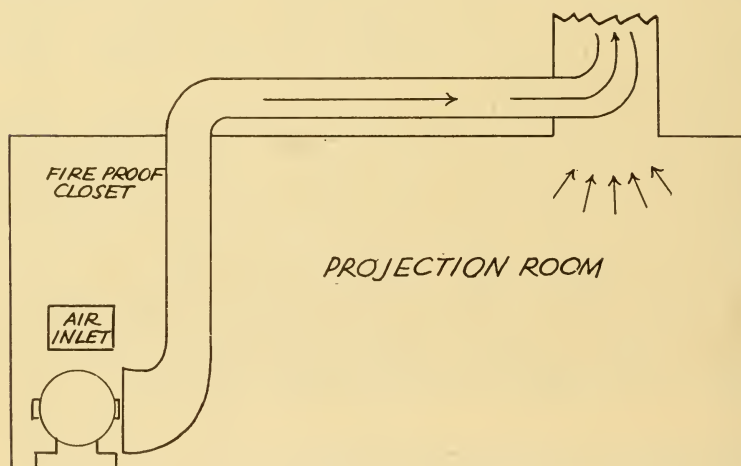

FIGURE 71
outlined in Fig. 71. If preferred the fan may be located entirely outside the projection room.
(67) To be effective the fan must be large enough to create a slight vacuum in the room; therefore it must be arranged to permit the inlet opening shutters to close automatically as soon as the port shutter master control is released. An auxiliary switch should be provided to open the fan circuit when the port shutter master control is released normally, as at closing time.
(68) In Fig. 71 it will be observed that the arrangement provides for an air injector, or ejector if you like that term better. It is very powerful in creating air movement.
(69) The air outlet should be of fireproof material, well insulated from all combustible matter nearby. There must be no sharp bends or elbows in the exhaust duct. The fan can be installed in the lower end of the duct itself provided the duct has sufficient diameter, and the fan can be geared to a well-protected motor. (70) Do not install the motor in the duct because it will be in the path of hot air and possibly flame and would be put out of commission immediately in case of an open film fire. The accompanying drawing is designed only to convey the general idea. Details of installation will vary widely for each theatre.
(71) What is wanted is plenty of fan power that will cut into maximum power the moment a fire starts, the driving motor well protected from heat.